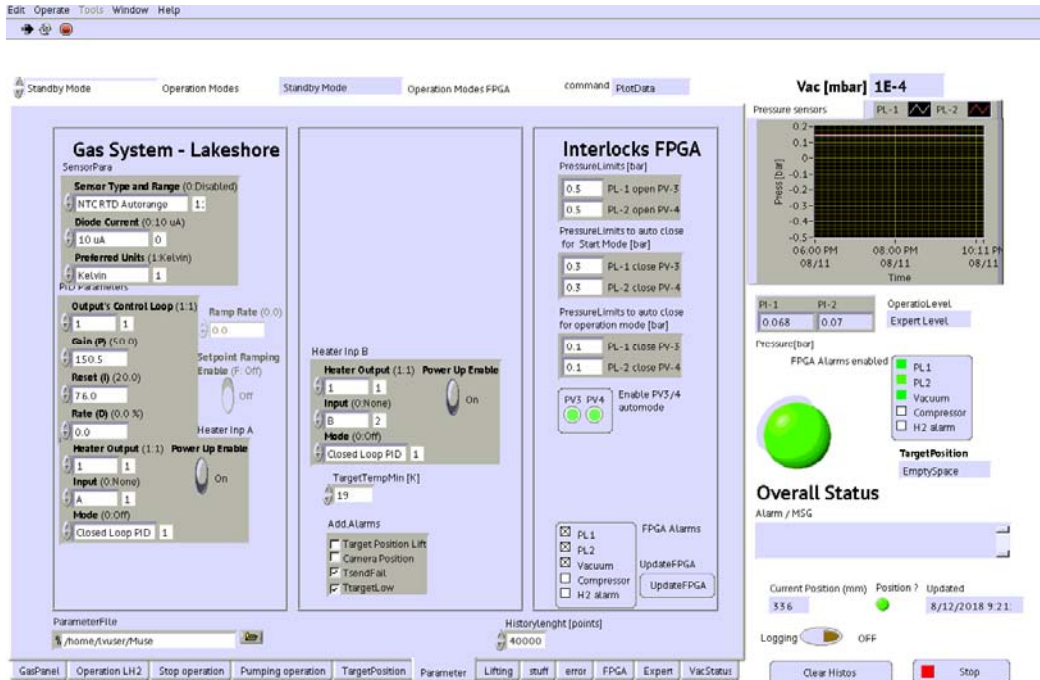

Figure 9: A picture of the 'Parameter' tab of RTMain.vi.
- a) go to 'Parameter' tab of RTMain.vi (see Fig. 9),
- c) go to 'Parameter' tab of RTMain.vi (see Fig. 9). Check PID is on input A or B. Check front display of Lakeshore shows 'L1 A' or 'L1 B' depending on input choice,